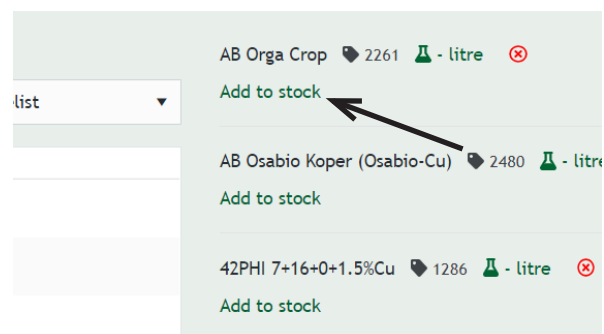

Figure 7
6. If you are keeping stock records and you use a product that is not yet in your stock, you will need to add the product to your stock before you can specify the quantity (see figure 7).